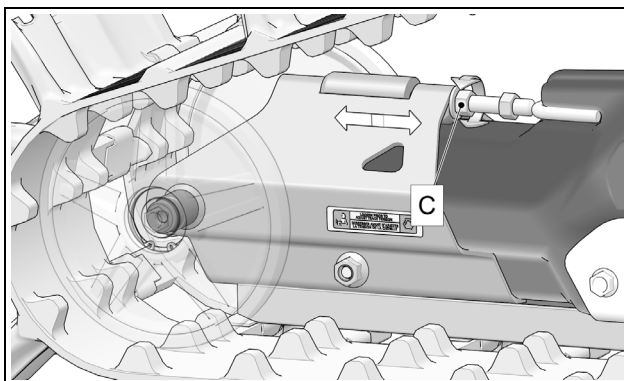

Figure 15
To adjust track tension, turn tension adjustment nut (C) clockwise or counterclockwise to obtain the recommended track tension. See Figure 15.